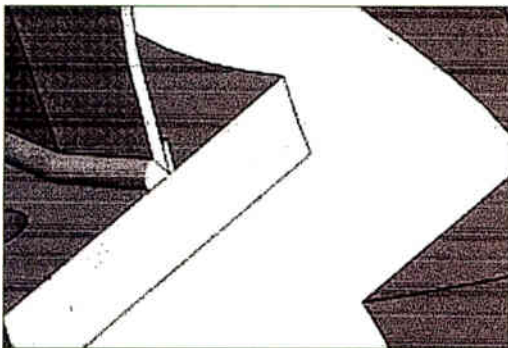

Figure 1. CJP joint cut-out showing butt-welded connection between the base plate and the pole wall.
■ *Complete joint-penetration groove weld* — The base plate is butted against the bottom of the monopole shaft and consists of 100-percent-complete weld penetration. In other words, the connection zone is all weld material. (See Figure 1, upper left).